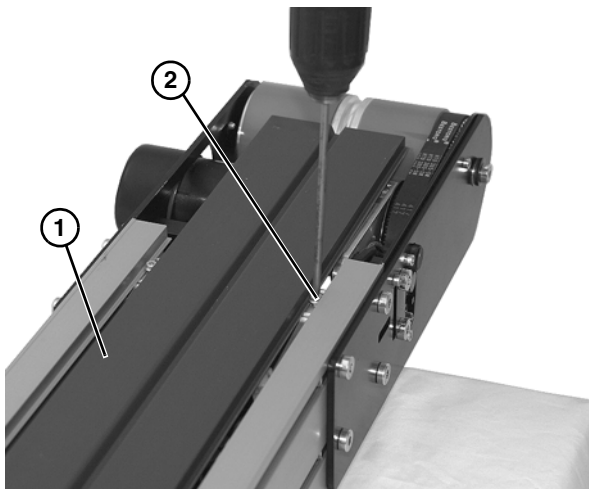

Figure 60
2. Remove wear plate (**Figure 60, item 1**) by removing plate fastening screws (**Figure 60, item 2**) on each side and end of conveyor